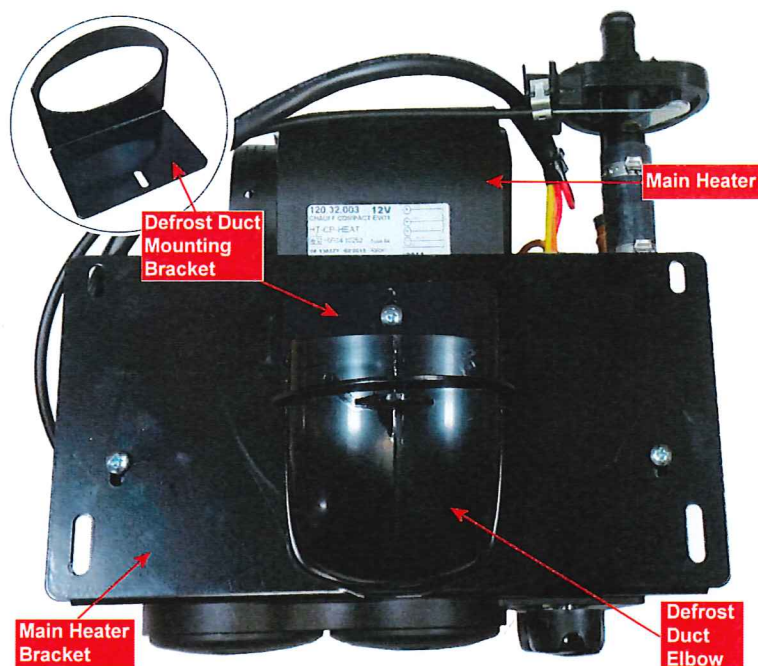

Figure 3
10. Install the Standard Heater Mount Bracket (defrost duct end with tabs toward defrost duct mounting bracket) and the Defrost Duct Mounting Bracket to the heater as shown in Figure 3 and attach using the supplied Plastic Mounting Screws with the 1/4" Fender Washers.